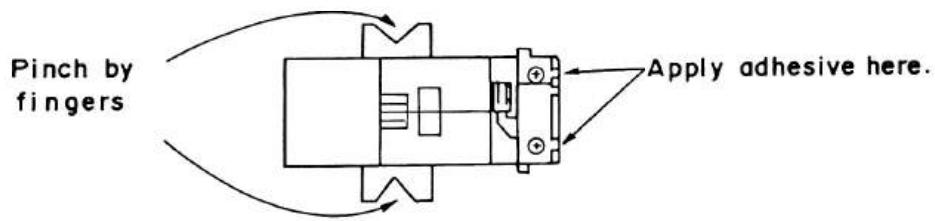

Fig. 5
- 3) As shown in Fig. 5, hold the S1 head by hand, and adjust the position of S1 head by hand while observing the oscilloscope waveform.
- 5) Take out the disk, and apply an instantaneous adhesive to two positions shown in Fig. 5 (use Lock-Tite #420).